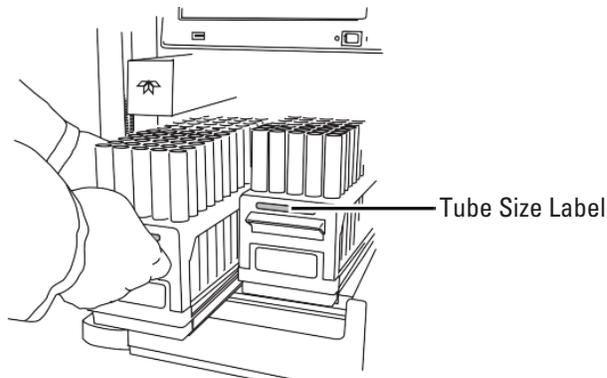

Figure 2-15 Inserting the collection tube rack
2. While holding the rack with the tube size label visible (Figure 2-15), insert the racks into the system. Slide the rack in until it stops. You can feel it drop into its seated position when it is properly loaded.